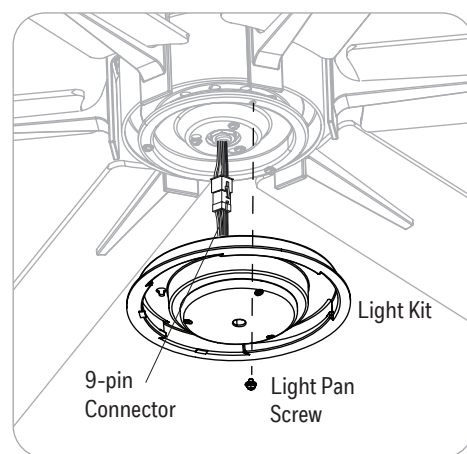

Figure 4.6
6. Remove one of the three light pan screws from the light pan. Connect the 9-pin connectors from the light pan to the 9-pin connectors from the light kit. Lift the two keyhole slots in the light kit over the two loosened light pan screws and turn in a clockwise direction. Then, use the previously removed light pan screw to secure the light kit to the light pan (Figure 4.6).